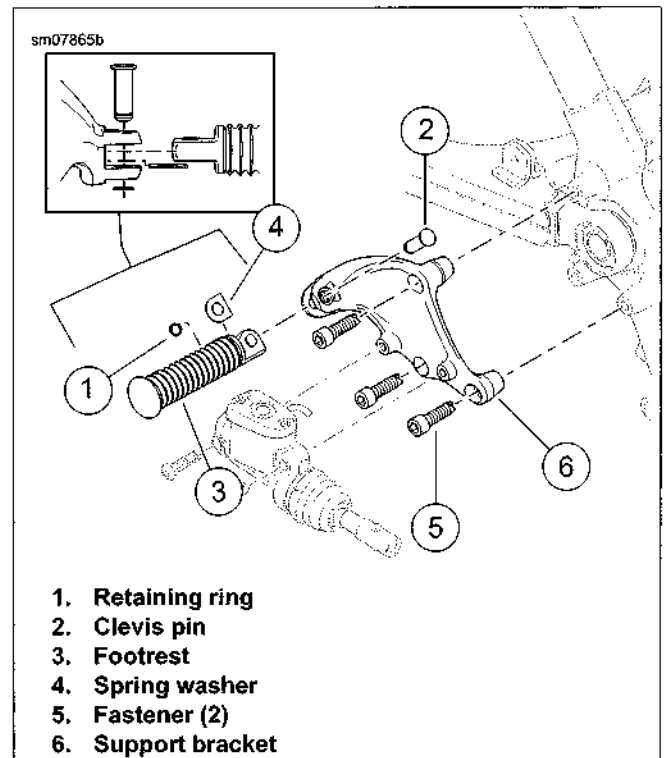

Figure 2-186. Right Passenger Footrest
3. See Figure 2-186. Remove retaining ring (1), clevis pin (2), footrest (3) and spring washer (4). Discard retaining ring.
4. Remove two fasteners (5) and footrest support bracket (6).